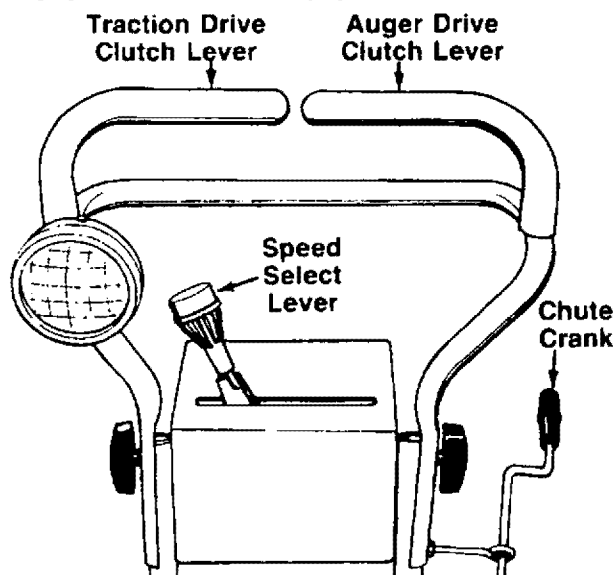

FIGURE 10.
The snow thrower operating controls and their functions are as follows (see figure 10):
**Discharge Chute**—The direction snow is thrown can be changed by turning the chute crank. See figure 10. Turn clockwise to discharge to the left. Turn counterclockwise to discharge to the right. The distance snow is thrown can be adjusted by raising the discharge chute for greater distance, or lowering for less distance.